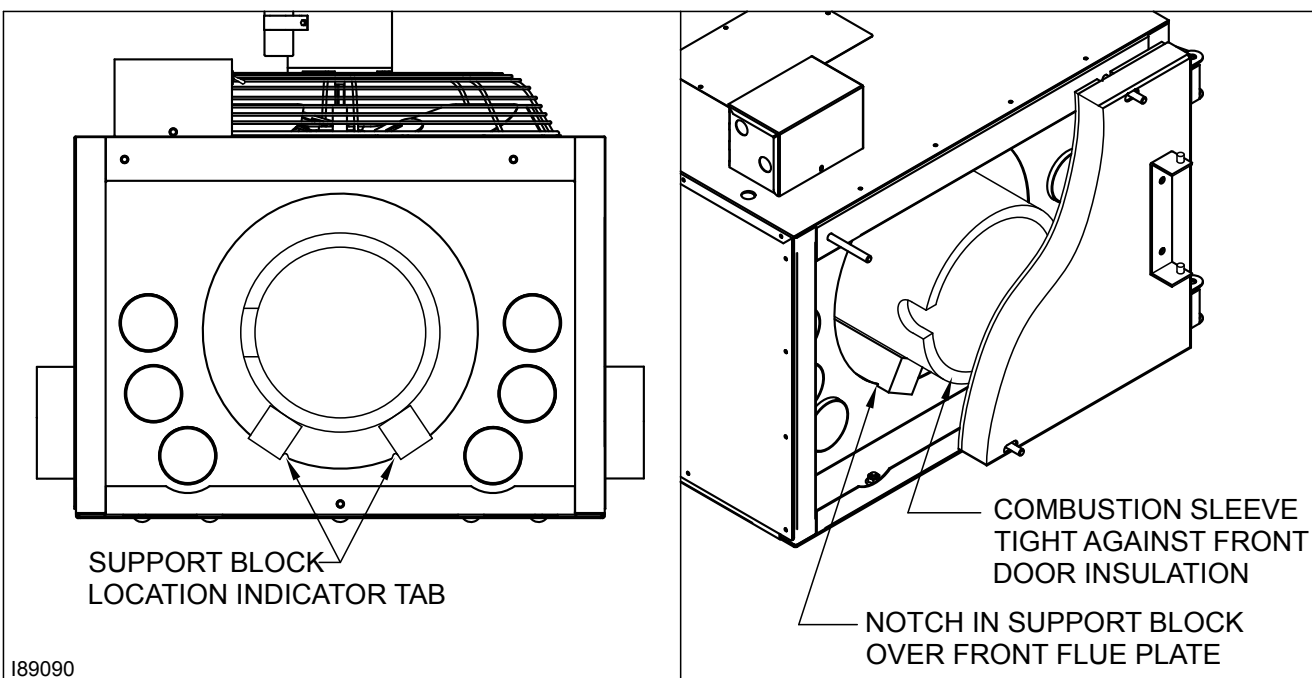

Figure 3D - Installing the Combustion Sleeve
3. Refer to Figure 3D. Place the two (2) soft fiber board blocks (2" x 2" x 8") on the bottom of the combustion chamber against the indicator tabs. The notch in the support blocks should fit over the front flue plate.